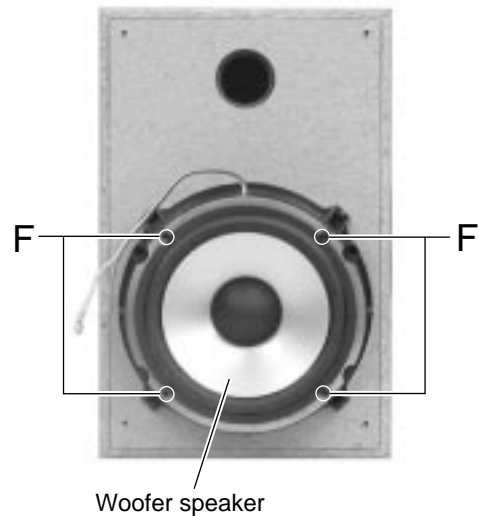

Fig.7
■ Removing the woofer speaker (See Fig.7)